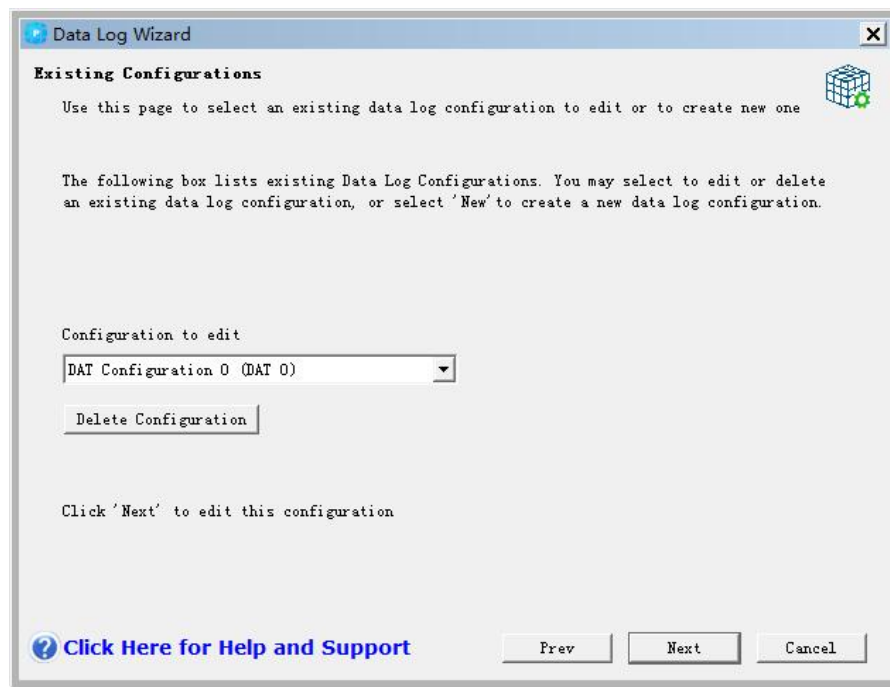

Figure 6-31 Edit Existing Data Log Configurations
1. Click the dropdown list to select an existing data log configuration as shown in Figure 6-31.